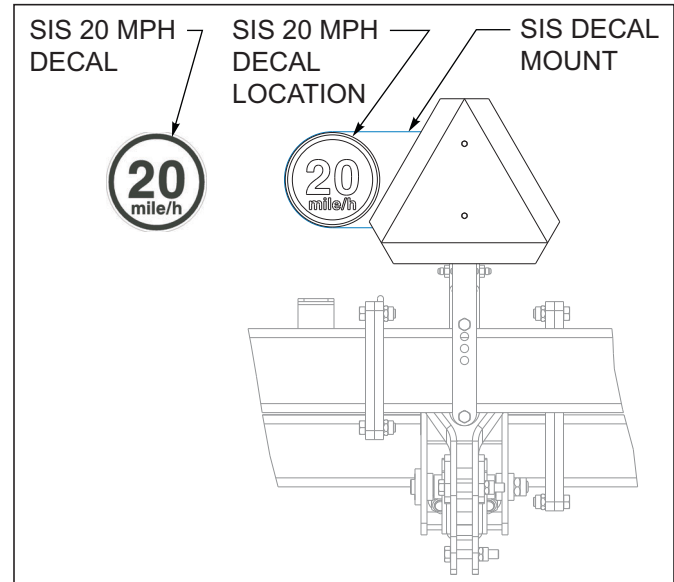

Figure 3-1: SIS 20mph Decal Installation
6. Install the smv, SIS decal bracket to smv mount with 1/4 x 1 bolts and 1/4 lock nuts. Install the SIS 20mph decal in location shown See Figures 3-1.
16. Install the smv, SIS decal bracket to smv mount with 1/4 x 1 bolts and 1/4 lock nuts. Install the SIS 20mph decal in location shown *See Figures 3-1*.